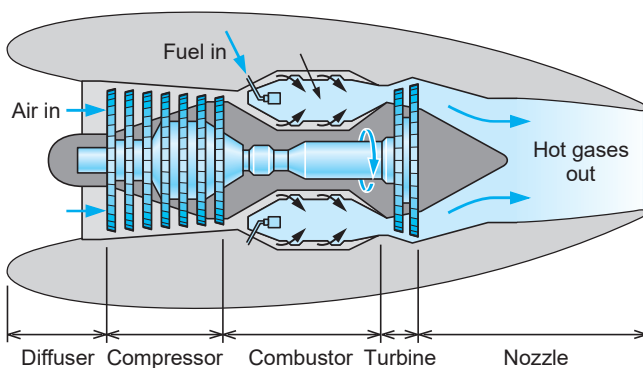

FIGURE P6.23
- 6.23** In a jet engine a flow of air at 1000 K, 200 kPa, and 30 m/s enters a nozzle, as shown in Fig. P6.23, where the air exits at 850 K, 90 kPa. What is the exit velocity, assuming no heat loss?